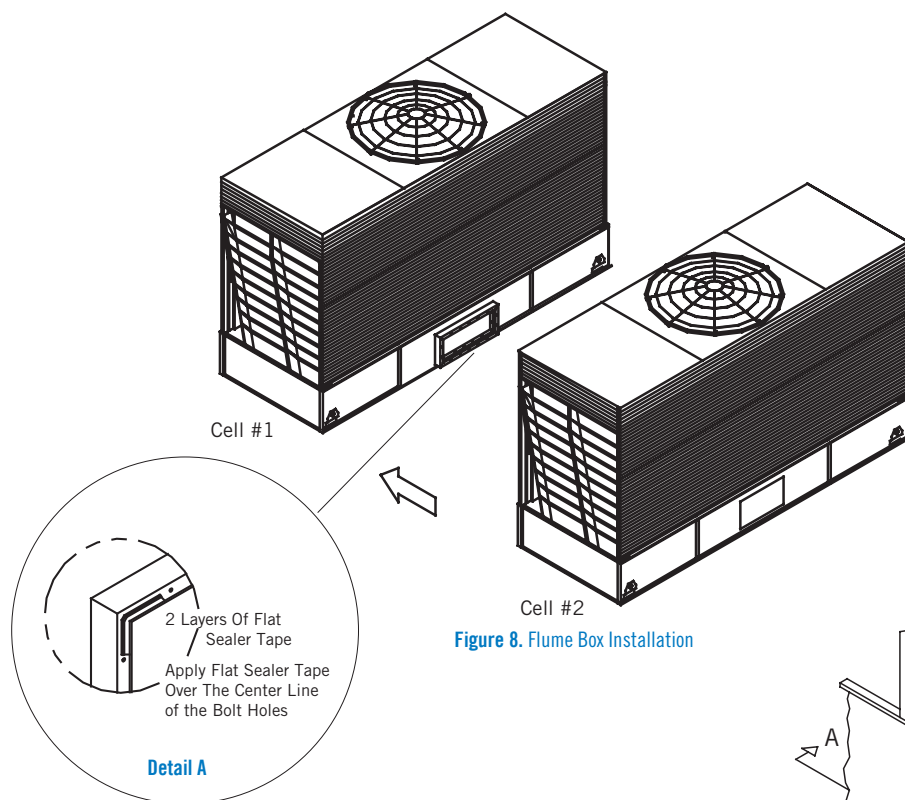

Figure 8. Flume Box Installation
3. Wipe down the flanges on both ends of the flume box. On one end, apply a layer of flat butyl sealer tape (BAC part # 554000) around the face of the flange over the centerline of the holes. Do not overlap or stretch too thinly at the corners. When it is necessary to splice the sealer tape, be sure to press the two ends together to form a smooth, continuous strip. Apply a second layer of flat butyl sealer tape over the first layer following the same procedure. Refer to **Figure 8, Detail A**.